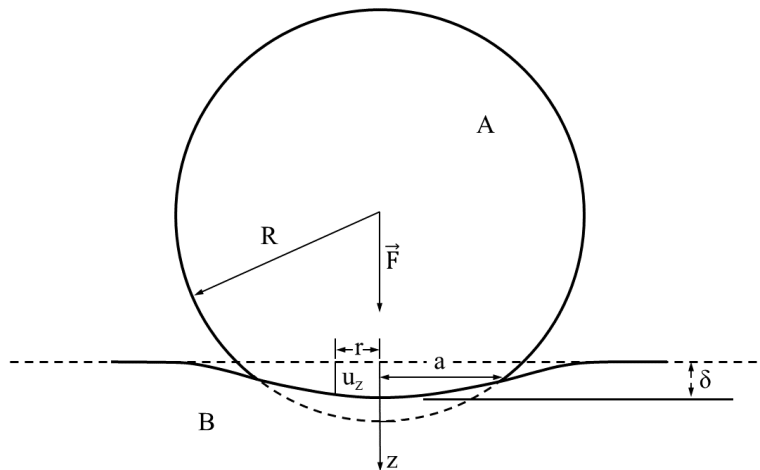

Figure 1 (A - Spherical ball, B - Infinitely large half-space)
1. One of the surfaces is a half-space (one of two regions formed when a plane divides 3D Euclidean space) of infinite extend (Figure 1).